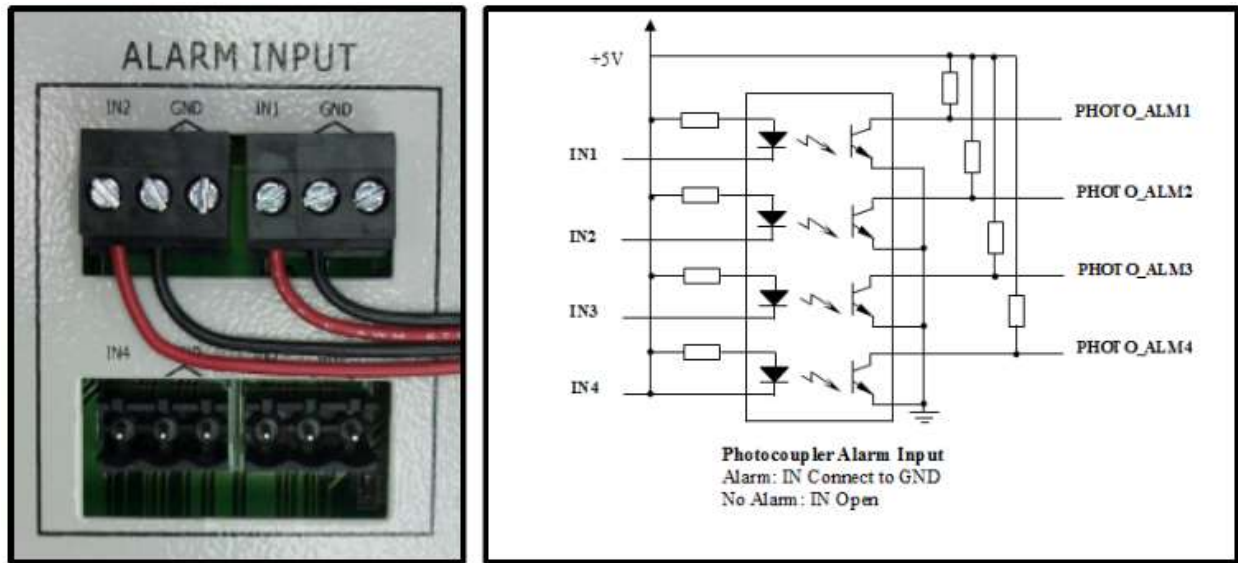
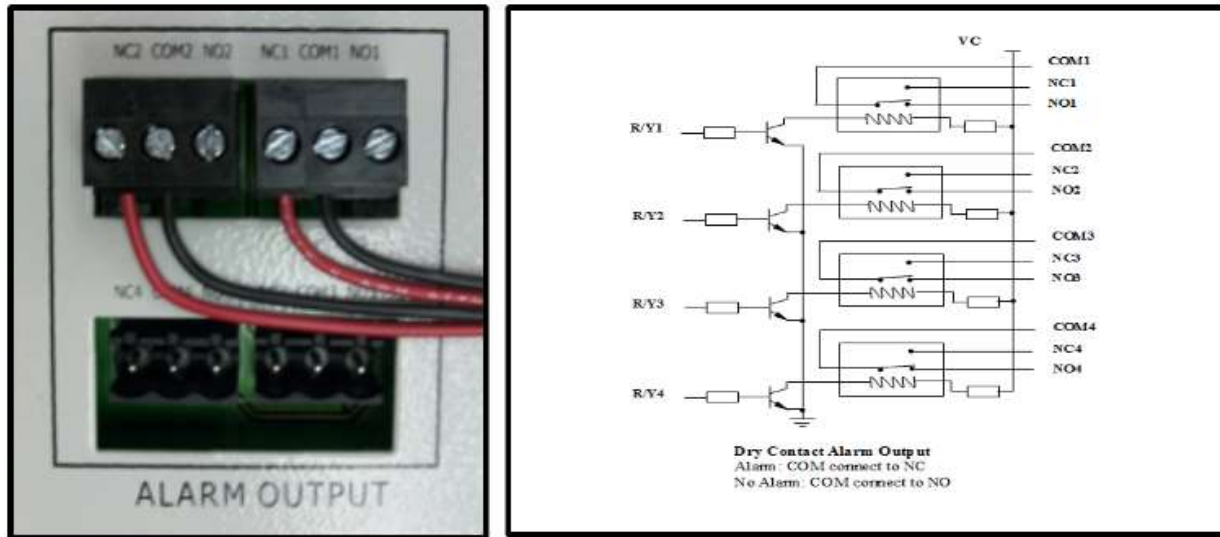

Figure 4-25. Input Alarm Installation (Alarm On)
Figure 4-26. Output Alarm Installation (Alarm On)
5. Plug all the alarm connectors into the Alarm Input interface as shown in **Figure 4-25** and **Figure 4-26**.